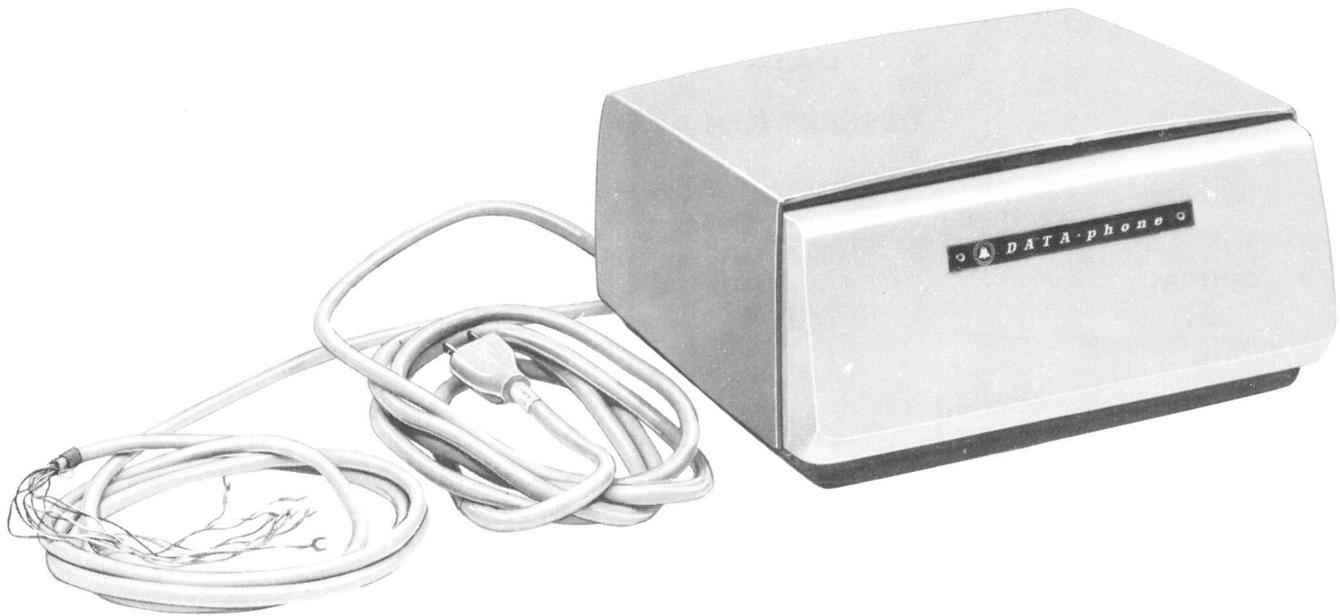

Fig. 1—Data Set 103H-Type
1.03 Data Set 103H-type (Fig. 1) is a general purpose, full-duplex (FDX), frequency-shift-keyed (FSK) serial set designed for low-speed (up to 300 baud) data transmission. The interface conforms to Electronic Industries Association (EIA) Standards. When the Data Set 103H-type is equipped with Data Set 103E5 or 103E6 with ZD option, the 103H-type conforms to EIA standard RS-232-B. When the Data Set 103E6 is not equipped with ZD option, the Data Set 103H2 conforms to EIA standard RS-232-C.
2.01 Data Set 103H-type (Fig. 1) consists of a Data Set 103E5 or 103E6 (data modem) and a 17A or 48A power unit packaged in a plastic housing. Connectors are provided for connecting Data Set 103H-type to the associated data terminal and attendant set. The connectors provided for interconnection of Data Set 103H-type and the attendant set are 50-conductor AMPHENOL® connectors. This allows, by use of one or more telephone company-provided A25B connector cables, locating the data set and attendant set further apart. A cord is provided for connection of Data Set 103H-type to the telephone facility and, if used, the ACU. In addition, an ac power cord is provided as part of the data set. For a description of the Data Sets 103E5 and 103E6, refer to SD- and CD-1D147-01.